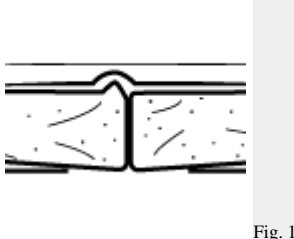

Fig. 1
**Cause:** Paper-bound edges have been damaged or abused; may result in ply separation along edge or in loosening of paper from gypsum core, or may fracture or powder the core itself. Damaged edges are more susceptible to ridging after joint treatment (Fig. 1).